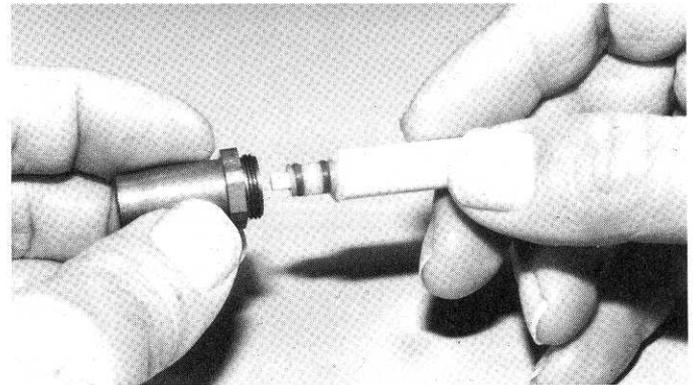
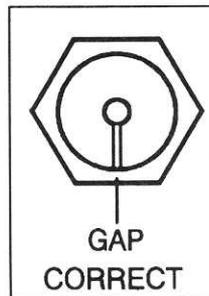
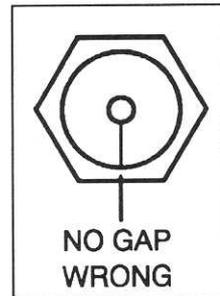

Fig. 96
Fig. 97
Fig. 98
□ **Figs. 96, 97 & 98** Now take the shock body and the installation tool and push the parts slowly into the shock body all the way down until it bottoms out. Then give it a hard push to seat the split washer. You should be able to hear the washer snap into place. Pull the installation tool out. Look into the shock body to check the installation. **IMPORTANT!** The split ring should look like fig. 97. If it looks like fig. 98, then the washer is not seated in the lock groove and the shock will come apart. **MAKE SURE THE WASHER IS FULLY SEATED IN THE GROOVE.** (Note: To remove the parts, take the installation tool, insert it up through the bottom of the shock, and push the split washer out.)